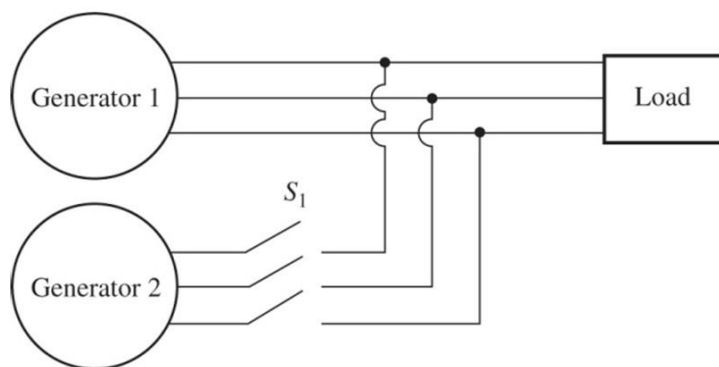

Figure 5
5. (a) Figure 5 shows two three-phase synchronous generators which can be used to supply electricity to the load. Assume that generator G1 is supplying power to the load, while the generator G2 is about to be paralleled with G1 by closing the switch S1. What are the conditions that should be met before switch S1 can be closed and both generators connected?